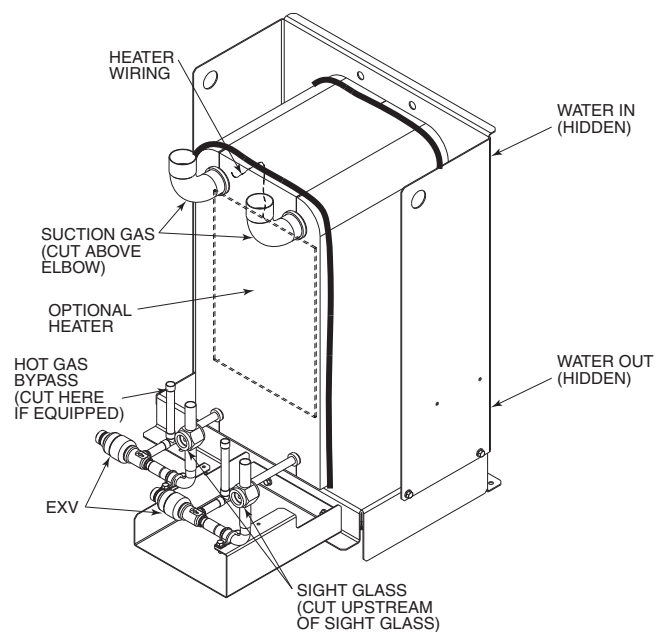

Fig. 3 — Evaporator Removed from Unit (30RAP035-060)
7. Install evaporator heater if necessary; if evaporator will be located in area with ambient temperature above 40°F or applied with fluid suitably treated for freeze protection, then evaporator heater is not required. Refer to the power schematic located inside the control box for heater connection detail and follow the local electrical code. Carefully note refrigerant and water connections. Install evaporator in suitable location that can support the weight of the evaporator while operating. Install evaporator vertically as shown in Fig. 3 and 5. For 070-150, reposition filter drier as necessary.